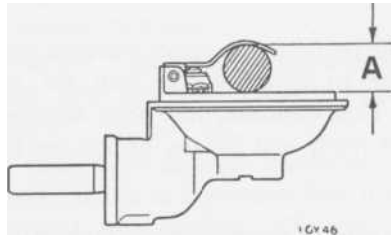

Fig. 29. Adjusting the fuel level.
3. The set of the forked lever is correct, when, with the lid of the float chamber inverted and the shank of the forked lever resting on the needle of the delivery valve, it is possible to pass a $\frac{7}{16}$ " (11 mm.) diameter rod, see " A " Fig. 29, between the inside radius of the forked lever and the flange of the lower face of the float chamber lid.